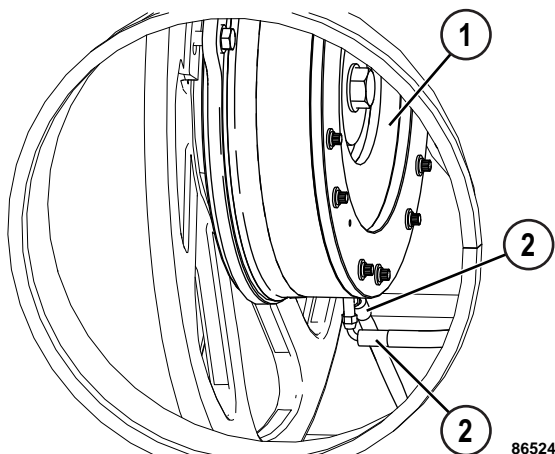

FIGURE 50-139. PARKING BRAKE HOSES
6. Open the rear axle access hatch. Disconnect and plug parking brake hoses (2, Figure 50-139) from parking brake (1) on each wheel motor.